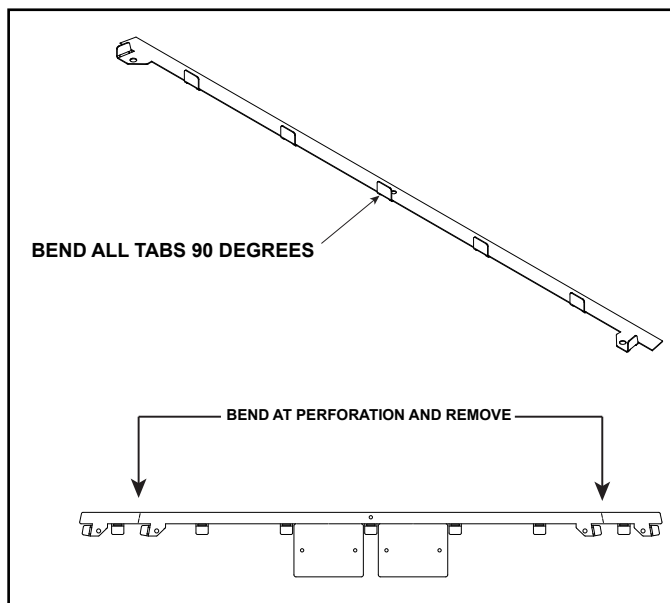

Figure 2 Back Refractory Support
- (1) Back Refractory Support (See Figure 2)
2. Locate back refractory support, included in manual bag assembly shipped with the kit. Remove LED covers from refractory support by bending as shown in Figure 2. Discard LED covers.
3. Bend two tabs on back refractory support as shown in Figure 2. Bend at perforation and remove.